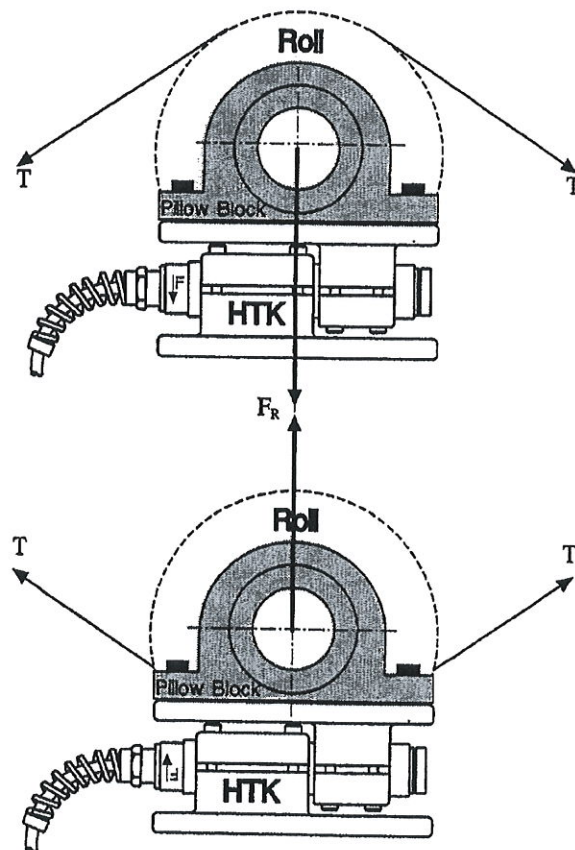

Figure 2-2. Tension Force Directions
(1) Positioning: HTK Web Tension Measurement Modules should be oriented so that resultant tension force (F_R) is applied perpendicular to the base of the module as shown in Figure 2-2.
(2) Base Mounting Plate Surface Preparation: The base of the tension module must be uniformly supported and level. BLH recommends a machined finish on the mounting surface. For a structural steel surface (pillow block mounting plate) using through bolts, the bolt spacing should be accurate to within 0.03 in. of the bolt pattern specified in the outline drawing dimensions. Grade 5 (English) or class 8.8 (metric) studs or bolts must be used. Do not weld the modules in place.
- d) Slide the HTK shim in between the KIS Beam and the clamp block. Align the edge of the KIS Beam housing to the left side of the plate clamping block. Position the beam so that the force arrow is aligned with the resultant force (up or down as shown in Figure 2-2).